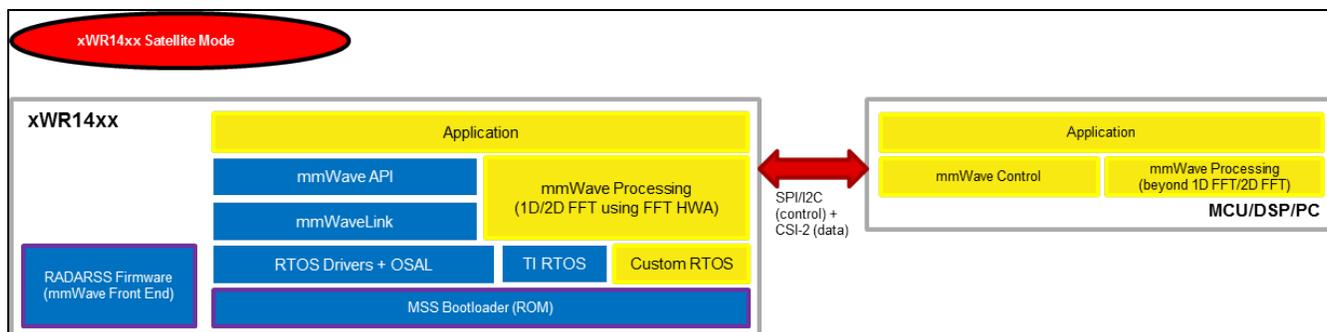

Figure 2: xWR14xx Deployment in Satellite mode
- Figure 2: xWR14xx Deployment in Satellite mode
These deployments are depicted in the Figure 1 and Figure 2.